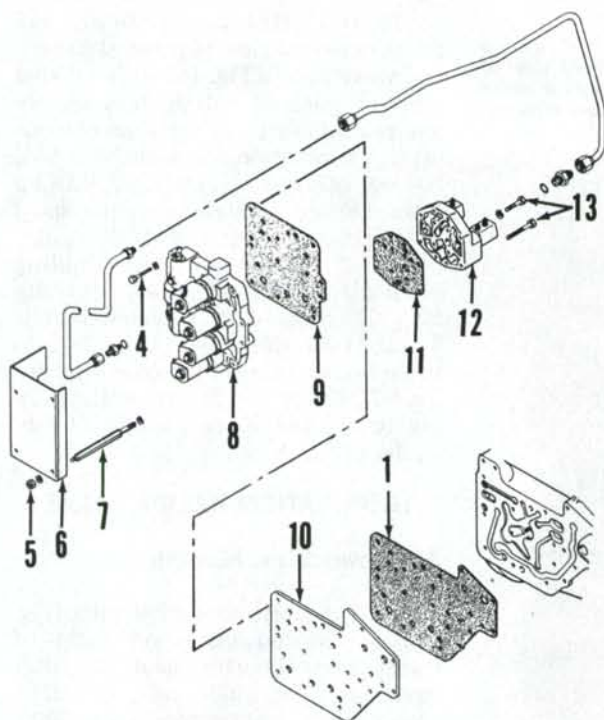
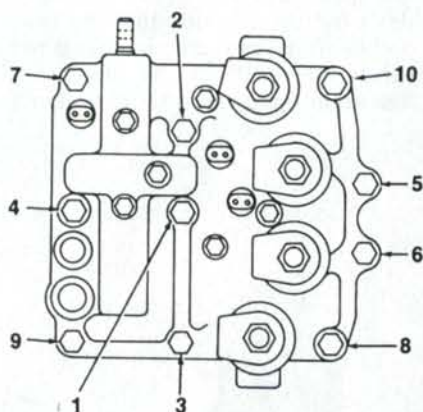
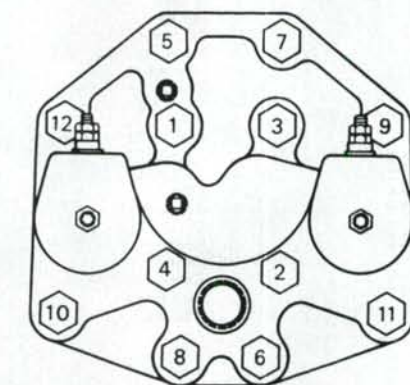

Fig. 142—View of power shift control valve removed from Model 2394 or 2594. C-5 and C-6 valve is used on six-speed power shift.
Fig. 143—View showing tightening sequence of power shift control retaining bolts on Models 2094, 2294, 2394 and 2594.
Fig. 144—View showing tightening sequence of C-5/C-6 valve retaining bolts on Models 2394 and 2594 equipped with six-speed power shift.
Models 2094 and 2294, remove outer gasket (9—Fig. 141), plate (10), center gasket (1), manifold (2) and inner gasket (3). On Models 2394 and 2594, remove outer gasket (9—Fig. 142), then unbolt and remove plate (10) and inner gasket (1).
Reinstall valves by reversing the removal procedure, using new gaskets. Tighten cap screws (4—Fig. 141 or 142) and studs (7) to a torque of 30-35 ft.-lbs. (40-47 N·m) using tightening sequence shown in Fig. 143. Tighten cap screws (13—Fig. 142) to a torque of 17-20 ft.-lbs. (23-27 N·m) using tightening sequence shown in Fig. 144. Refer to Figs. 145 and 146 for views showing location of pressure switches, pressure check ports and solenoids.